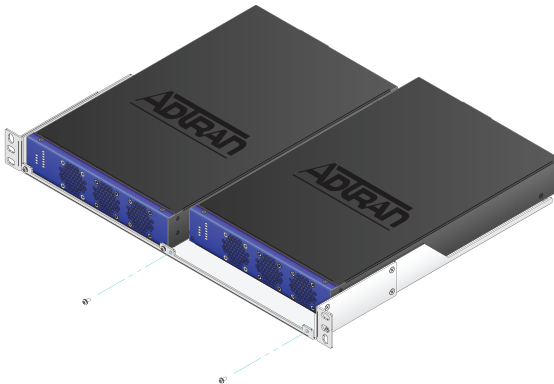

Figure 2. Rack Mounting the NetVanta 1131 Using the Dual Mounting Tray
3. Position two NetVanta 1131 units side by side on the dual mounting tray lining up the holes in the front of the units with the holes in the tabs on the front of the tray (see Figure 2). **Important!** To avoid damaging the unit when attaching it to the dual mounting tray, use only the screws supplied with the tray.